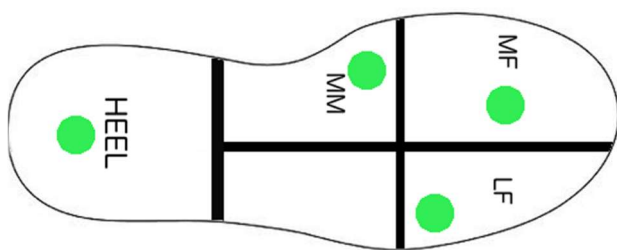

Figure 4: FSR sensor locations.
- Step 2. Place the four FSRs at the four locations depicted in Fig 4: 1) Medial Forefoot (MF), 2) Lateral Forefoot (LF), 3) Medial Mid-foot (MM), 4) Heel.
MM, MF, LF, and HEEL correspond to the FSR sensors as represented in Fig4.